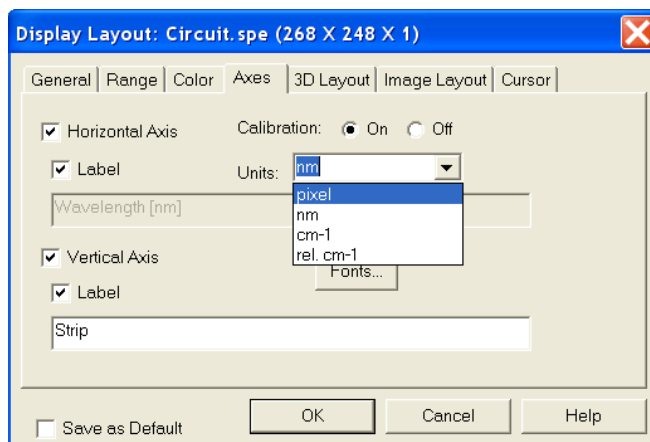

Figure 102. Display Layout/Axes tab
1. Open the **Display Layout|Axes** tab (Figure 102). Note that the checkboxes for **Horizontal Axis**, **Vertical Axis**, and the **Label** are all checked (If unchecked, the corresponding axis or label would not be displayed.)